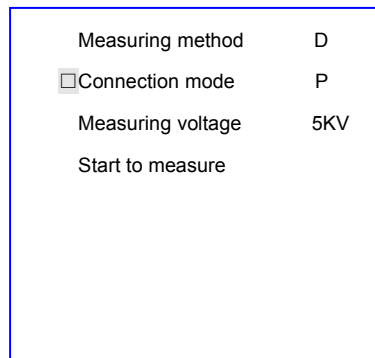

Figure 5 Connecting Mode
② Pressing the "ENT", the cursor would go to the "Measuring method W", pressing "←", "→", it could be adjusted to "Measuring method D", pressing "ESC", the cursor would go to the first line, and then pressing "↓", it would be moved down to the "Connection mode" which is shown in Figure 5.